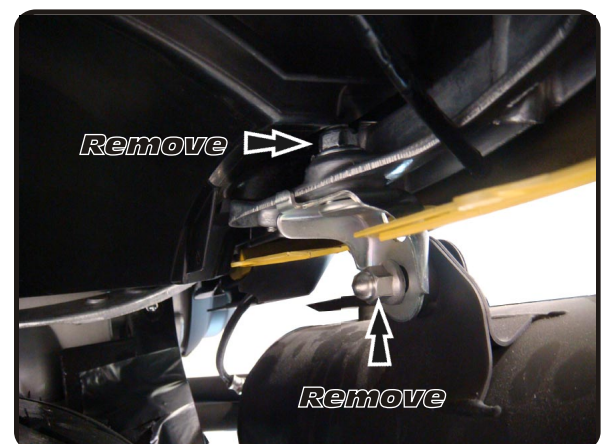

Fig. 7
- Remove muffler mounting bracket shown in Fig. 7. (Note: Stock muffler mounting bracket will not be used with Yoshimura system. Using a low profile open end 14MM wrench will ease removal and installation of the nut.)